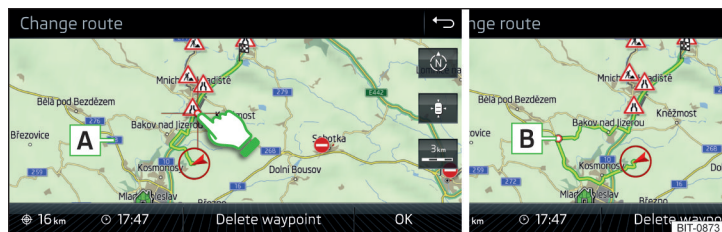

Fig. 246 Route change in the map / route transit point
- ▶ Touch the screen in the route field and move the cross-point to the desired location on the map, e.g. **A**, move » Fig. 246).
The transit point **B** is added to the route » Fig. 246.